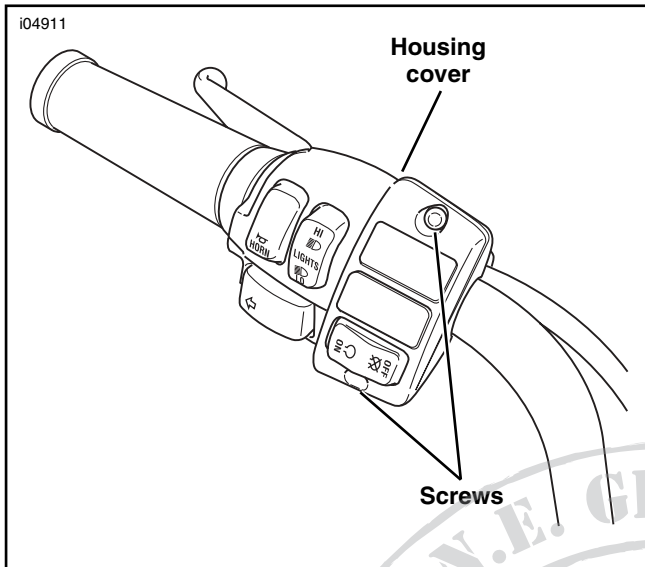

Figure 7. Install Housing Cover
- See Figure 7. Install the housing cover using two button-head screws. Using a T-25 TORX driver, tighten screws to 35-45 **in-lbs** (4-5 Nm).